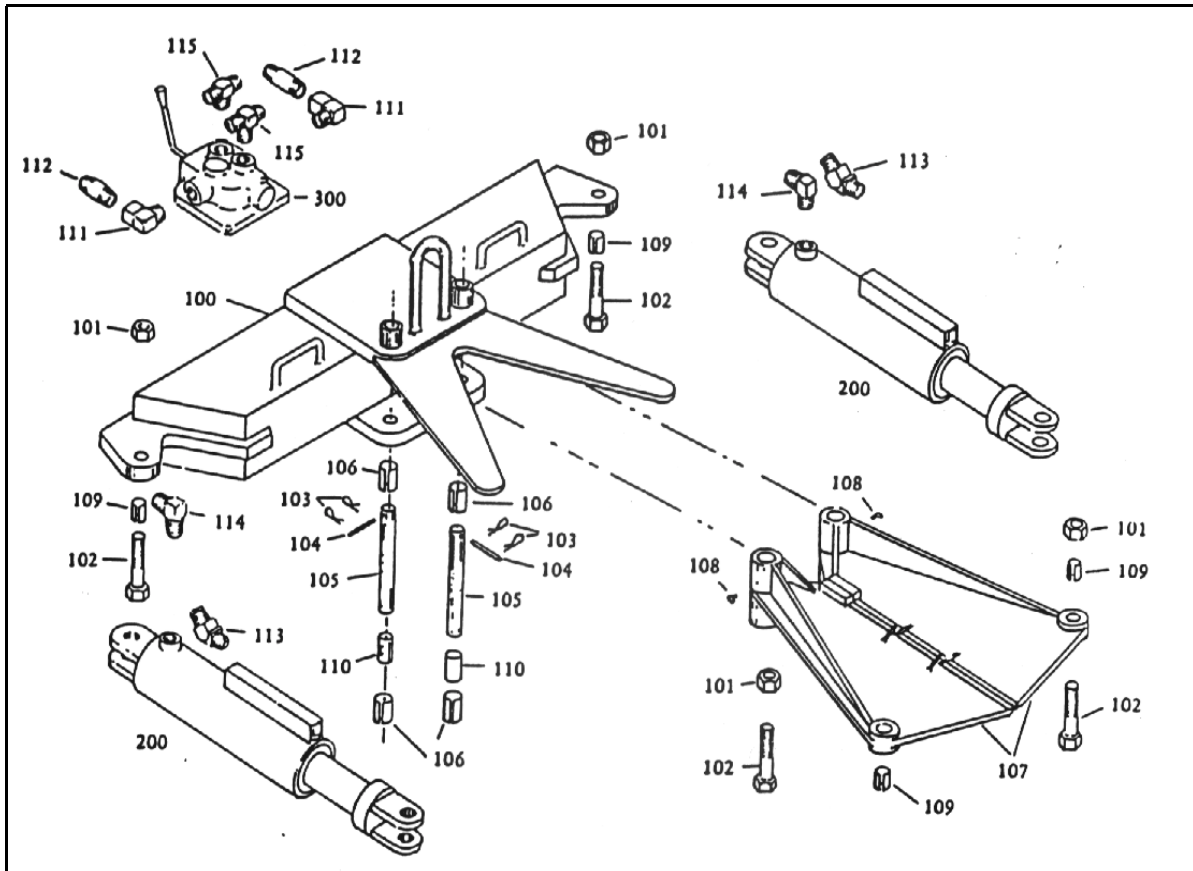

Figure V-3. Pile Cutter, Exploded View.
V-7.2 Removal/Installation of Blade. (See Figure V-3.)
- a. Figure V-3, Pile Cutter Exploded View.